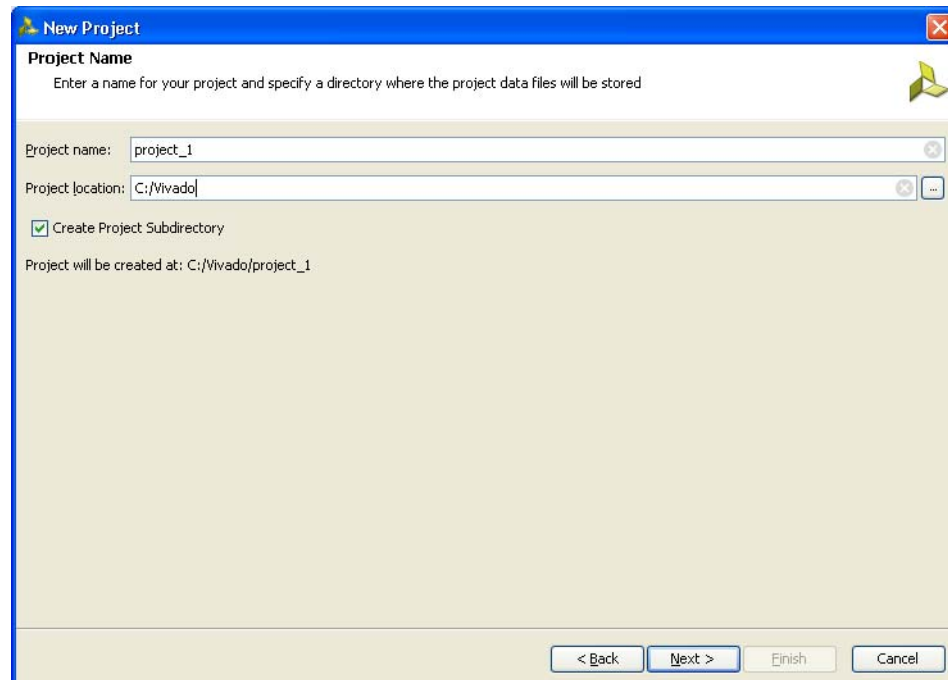

Figure 5-3: Project Name
3. Click **Next** to proceed to the **Project Name** page (Figure 5-3). Enter the **Project Name** and **Project Location**. Based on the details provided, the project is saved in the directory.